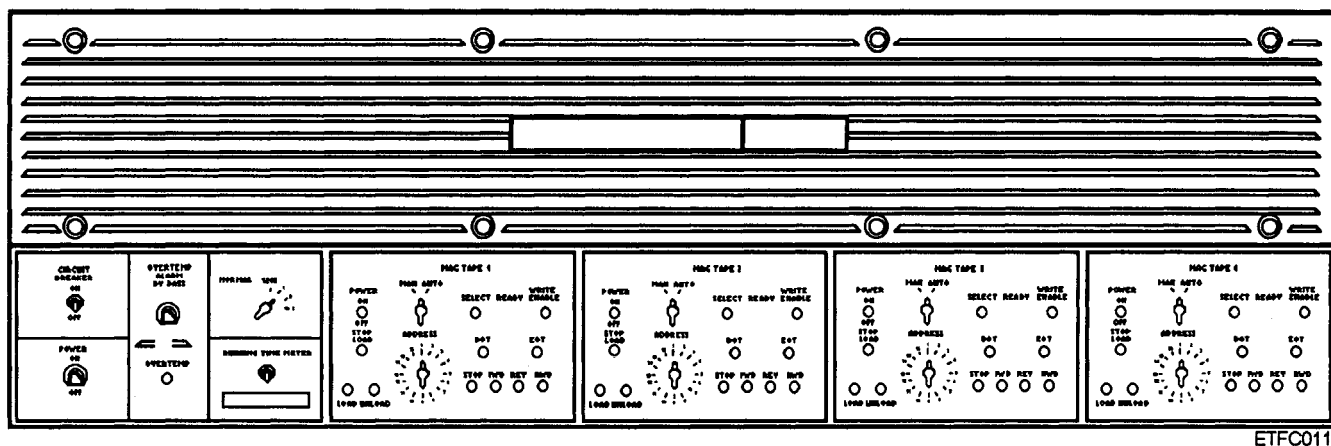

Figure 9-17.—An MTU system control panel.
**MTU SYSTEM CONTROL PANEL.**— The system control panel, as shown in figure 9-17, contains the controls and indicators for primary power and tape transport manual control. Controls and indicators for the controller include the main power circuit breaker, mode select, overtemp alarm, and overtemp alarm bypass. Controls and indicators for each tape